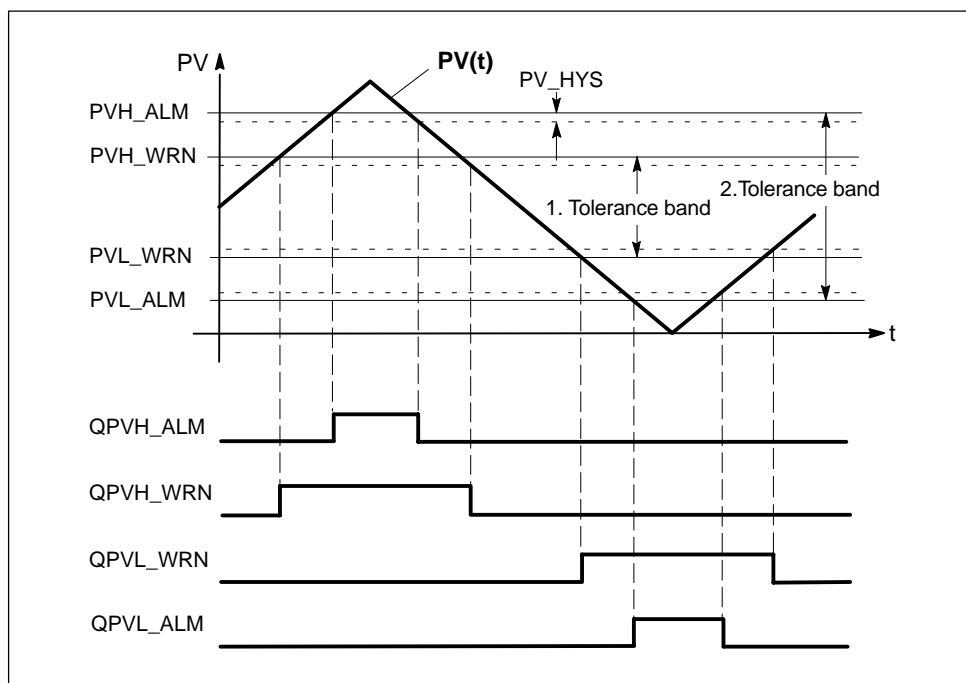

Figure 4-20 Process Variable PV – Monitoring the Limit Values
The numerical values of the limits are set in the input parameters for “Warning” and “Alarm” (Figure 4-20). If the process variable (PV) exceeds or falls below these limits, the corresponding output bits QPVH_ALM, QPVH_WRN, QPVL_WRN and QPVL_ALM are set (Figure 4-20).